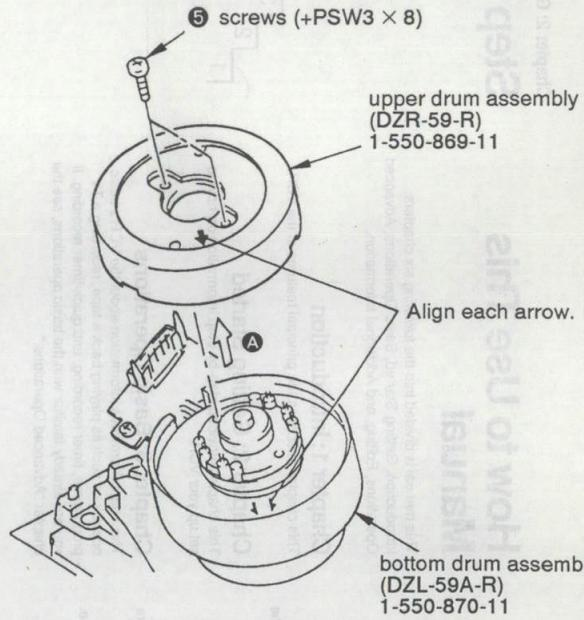

Fig. 5
- 4) Remove two screws ⑤ (PSW3 × 8) and take out the rotary upper drum in the arrow direction A . (See Fig. 5.)
- 2) Mount the rotary upper drum board by aligning marked → with marked ⇒ of rotary transformer board (lower drum) so that the screw holes of both upper and lower drums match. (See Fig. 5.)
- 4) Tighten two screws ⑤ (PSW3 × 8). (See Fig. 5.)
- 6) Fix the grounding shaft ② using the screw ① (+P3 × 6) so that the protrusion of grounding shaft end contacts the center of the drum shaft.
**Note:** When attaching the grounding shaft ②, be careful not to apply force to the spring section of it.